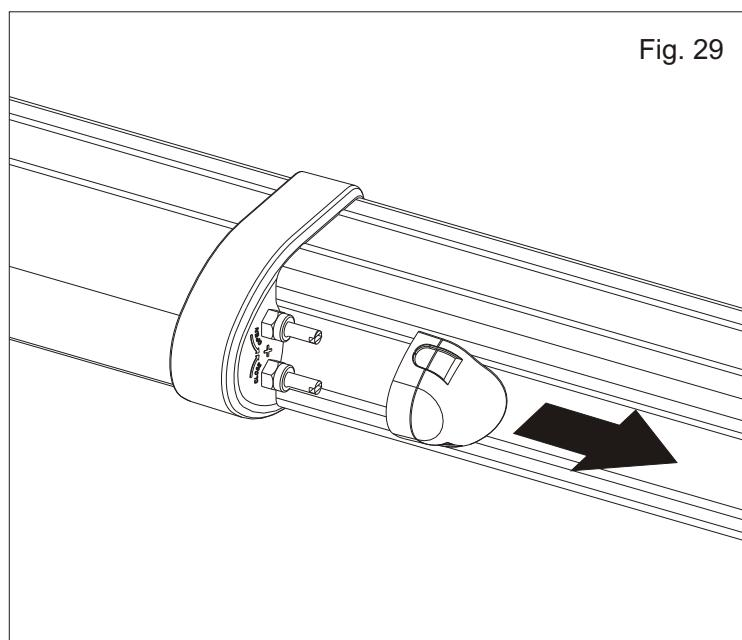

Fig. 29
4.1. Remove the plastic cover as shown below. (Fig. 29)